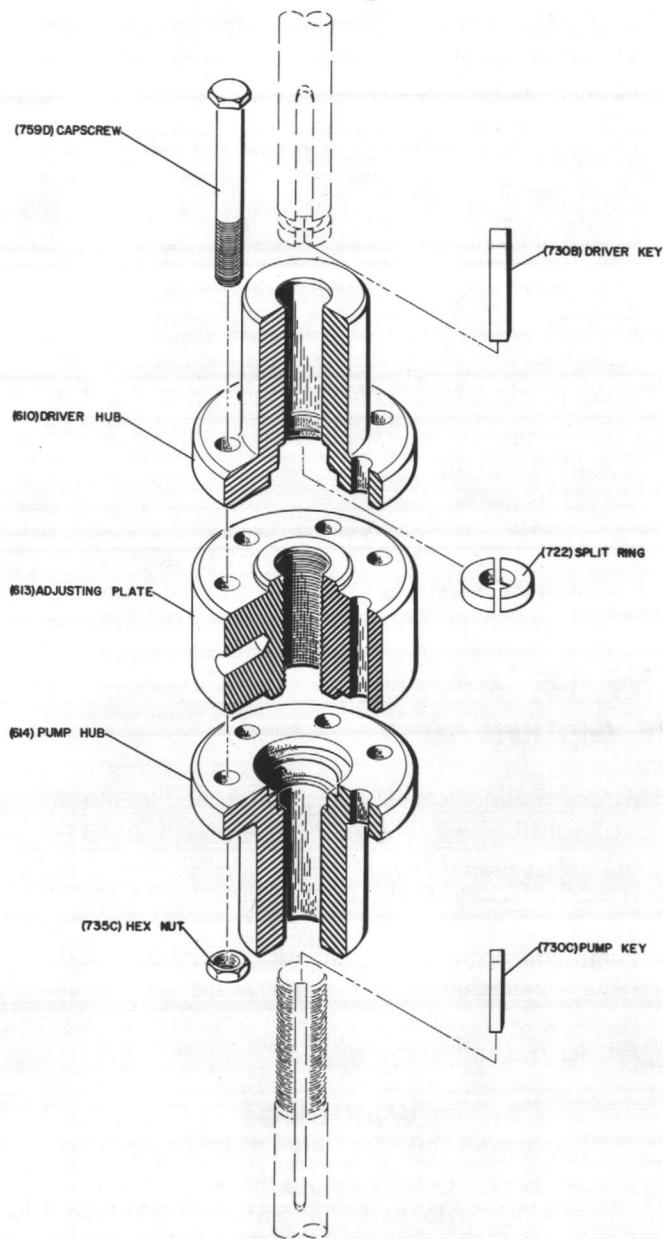
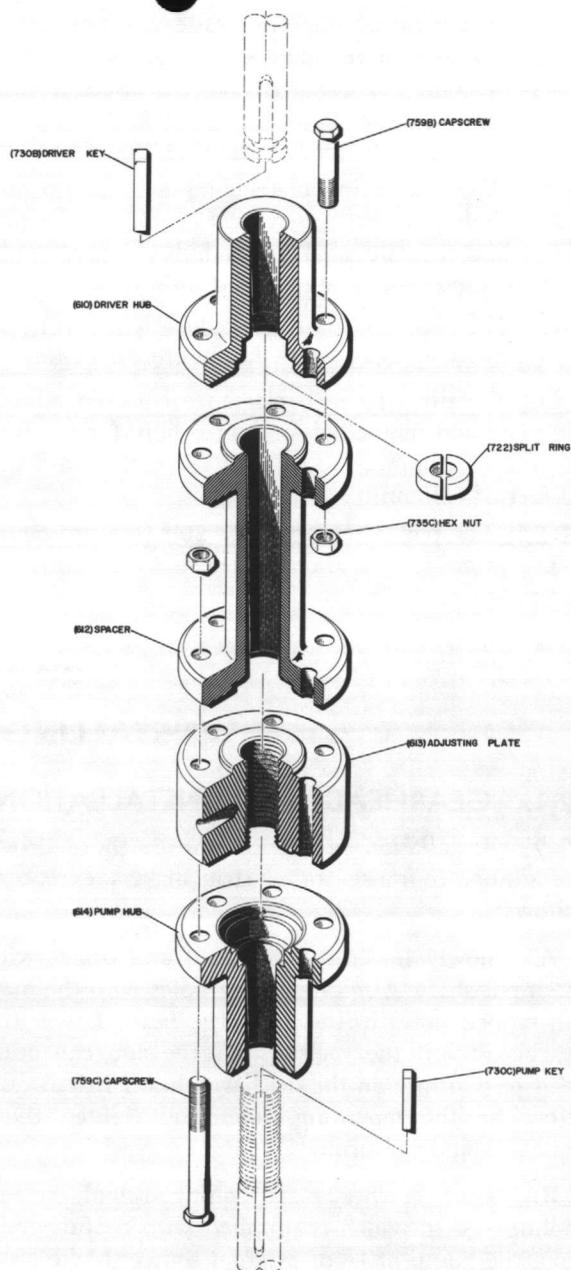

Figure 11-1 Flanged Adjustable Coupling
Figure 11-2 Flanged Adjustable Coupling with Spacer
**11-2.** The coupling shown between the driver shaft and pump shaft may be a non-spacer figure 11-1 type or a spacer type figure 11-2. The latter is used on pumps having a mechanical shaft seal, to permit replacing the seal without lifting the driver.